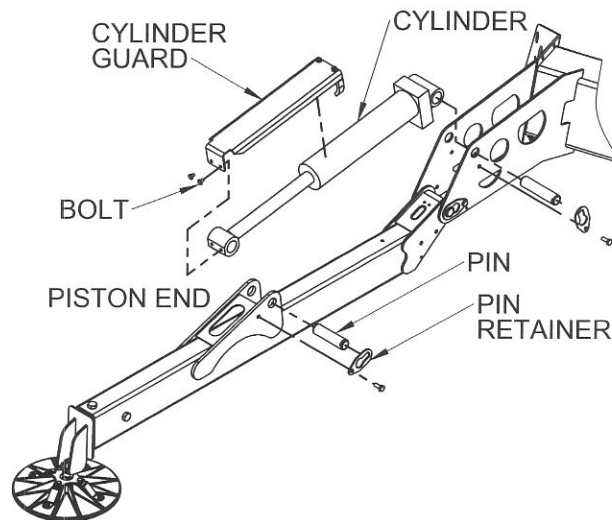

Figure 5-6. Outrigger Cylinder Replacement
- Remove the bolts securing the outrigger cylinder guard. Remove the cylinder guard. Refer to Figure 5-6.